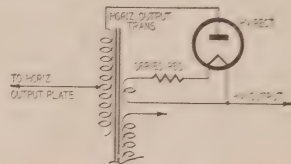

Fig. 9—Current-limiting resistor is in series with filament of rectifier.
6. Abnormal failure of high-voltage rectifier tubes may be caused by overdrive of the horizontal output stage or by abnormal high-voltage rectifier filament voltage resulting from incorrect value of series resistance (Fig. 9).